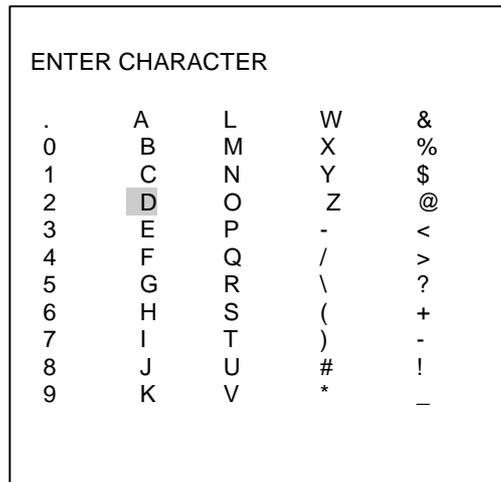

Figure 9: *Enter Character Menu*
- ? opens *Enter Character Menu* (Figure 9) to type the name: